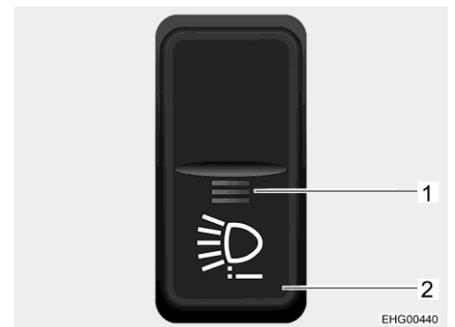

Fig. 13 Rocker switch
- Press rocker switch (Fig. 13,2). The function indicator (Fig. 13,1) is lit red. The text message "Additional lighting active" appears briefly in the display of the combined instrument.
To deactivate the additional LED main beam, either switch off the engine or press the rocker switch (Fig. 13,2) again. The red function indicator (Fig. 13,1) goes out.